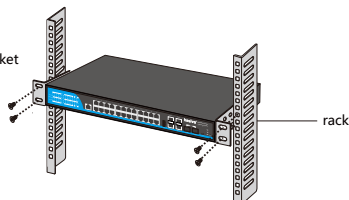

Figure 1.1.2 Schematic diagram of switch installation
4. Use screws to fix the L-shaped bracket to the guide slots fixed at both ends of the rack, ensuring that the switch is stably and horizontally installed on the rack, as shown in Figure 1.1.2.